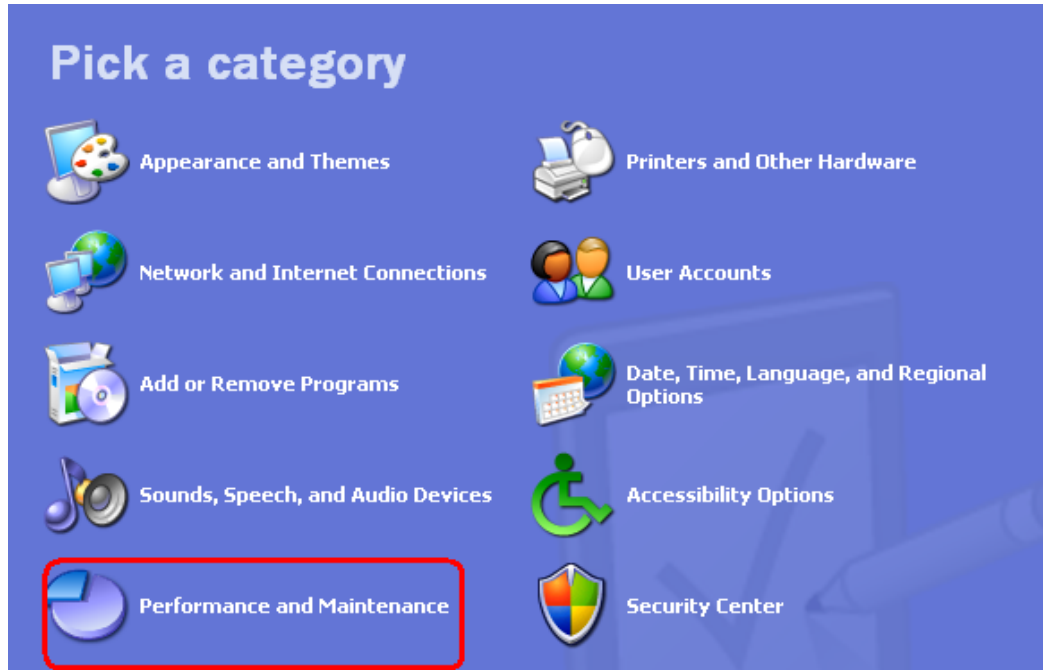

Figure 7-2: Performance and Maintenance
Step 3: The Window in **Figure 7-2** appears.
Step 4: Double click the **PERFORMANCE AND MAINTENANCE** option in **Figure 7-2**.